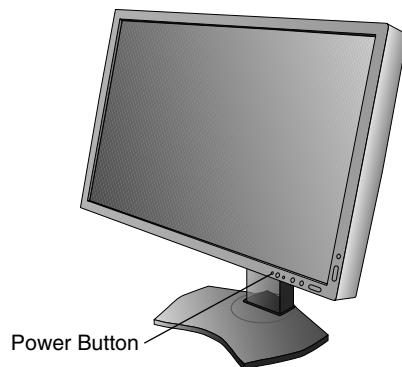

**Figure D.1**
7. Slide down the cable cover (**Figure D.1**).